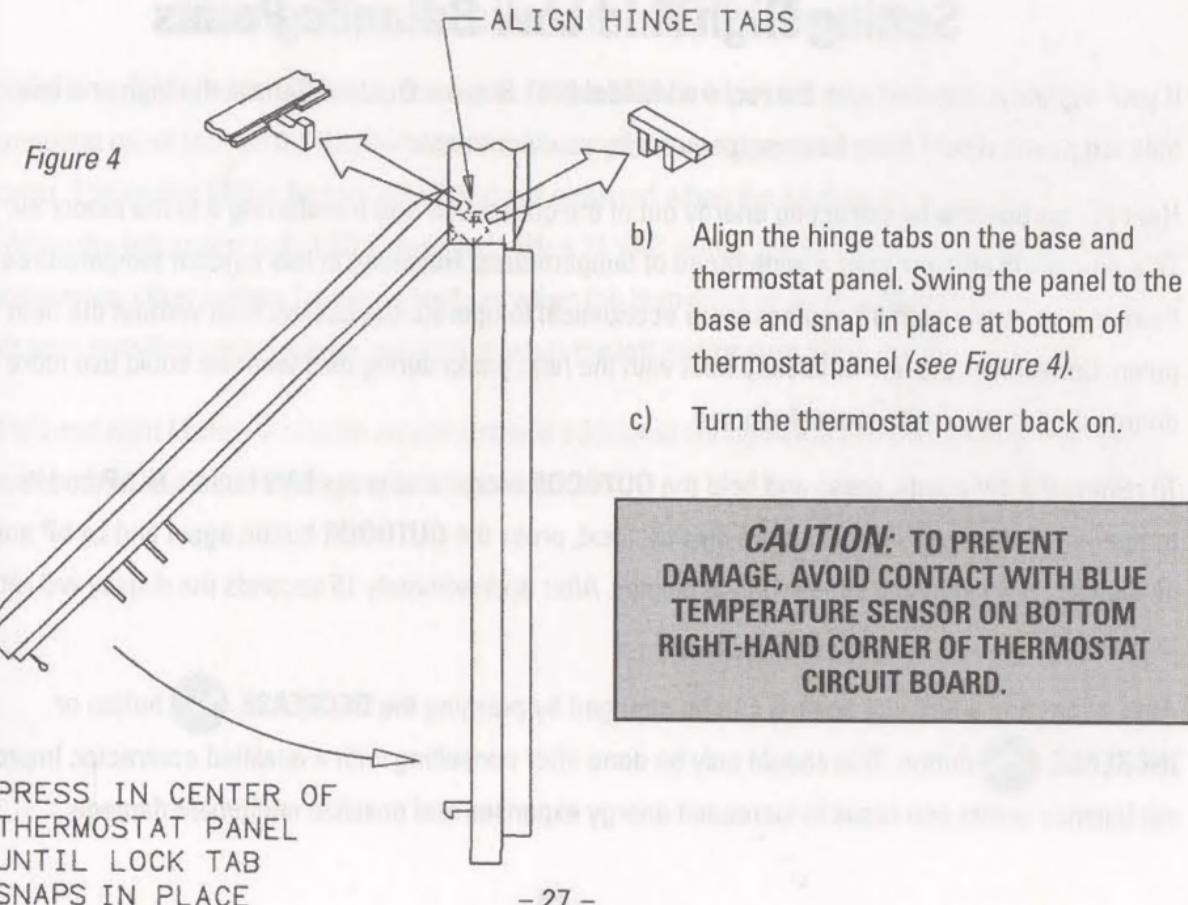

Figure 4
- Align the hinge tabs on the base and thermostat panel. Swing the panel to the base and snap in place at bottom of thermostat panel (see Figure 4).